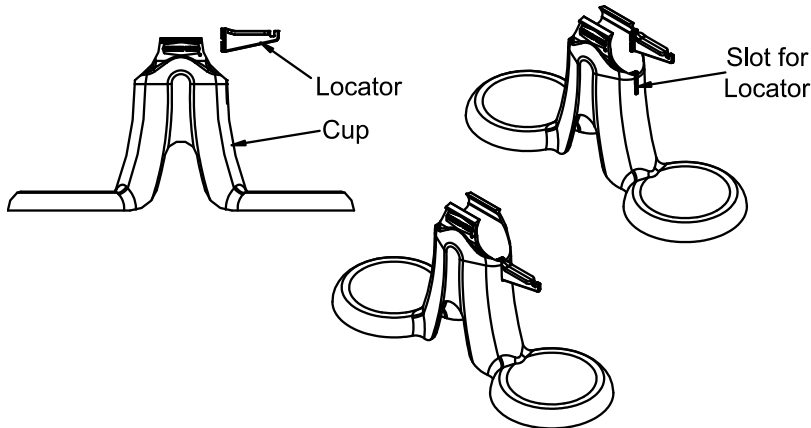

Figure 21. Advanti-Flow Cup Installation
1.Install the locator to the cup as shown, (See Figure 21).